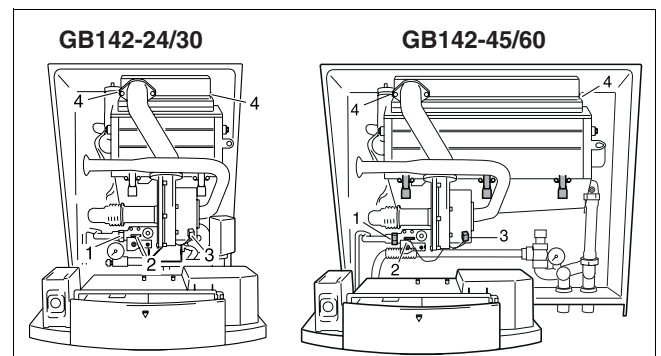

Fig. 3
- Loosen the screw connection on the gas valve (fig. 3, **pos. 1**) and pull the plug (fig. 3, **pos. 2**) from the gas valve.
- Pull both plugs from the fan unit (fig. 3, **pos. 3**).
- Loosen both retaining clips (fig. 3, **pos. 4**) on the burner cover and remove the burner cover together with the fan unit and the gas valve.